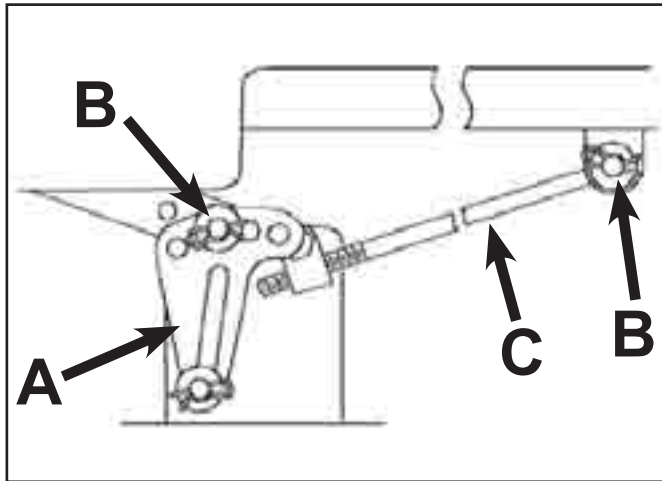

Fig A6 007 fig. 42 G000542
**Note:** Before removing the mower, make a note of which holes are used in the leveling brackets (Fig. A6 007).